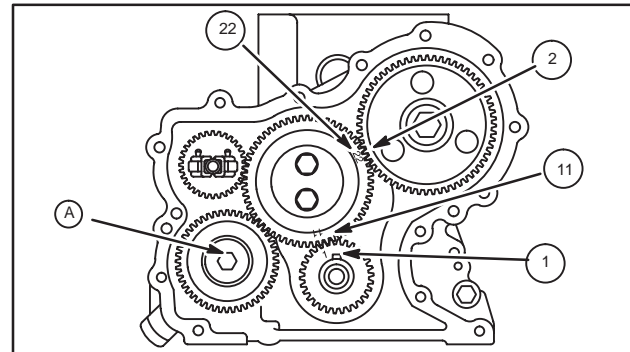

Fig. 19 – Aligning Timing Marks
5. With crankshaft key at 12 o'clock position, assemble idler gear so that timing mark 11 (AA) is aligned with timing mark 1 (A) on crankshaft gear, timing mark 22 (BB) is aligned with timing mark 2 (B) on camshaft gear as shown in Fig. 19.